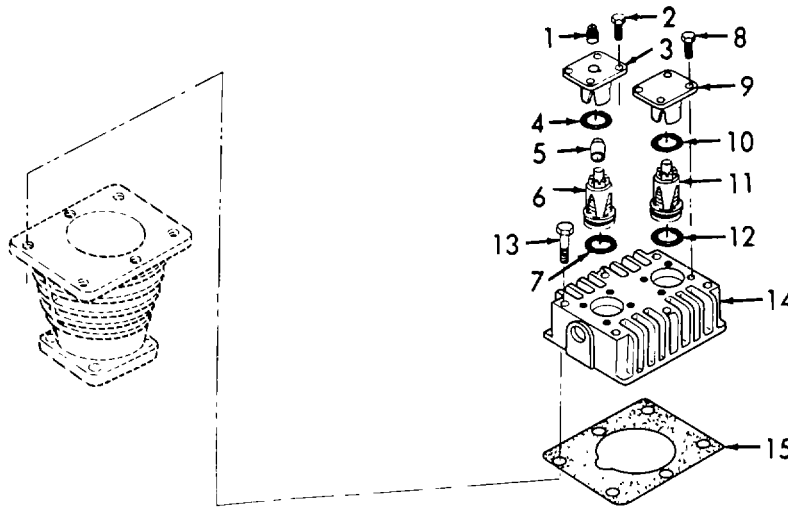

Figure 4-4. Head and Valve Assembly, Removal.
a. *Removal.* (Refer to Figure 4-4).